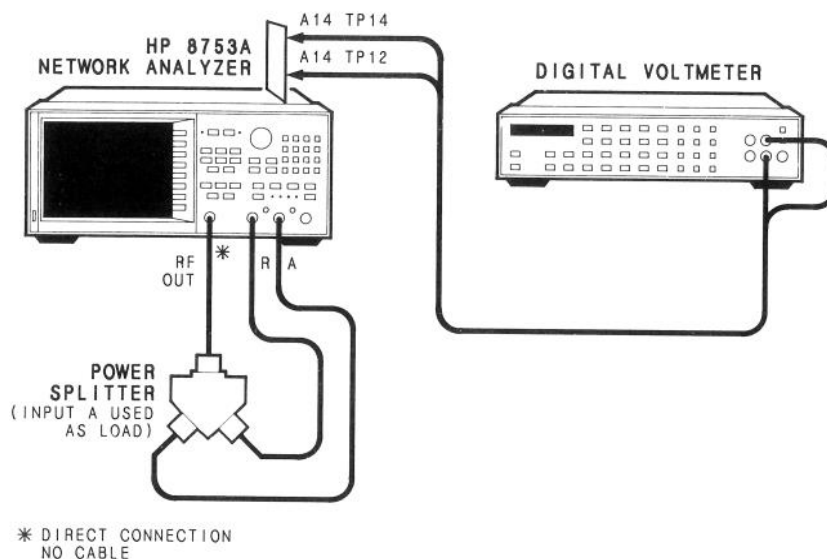

Figure 5. A14 Fractional-N Digital VCO Board Adjustment Setup.
1. Remove the top cover and circuit board stabilizer of the HP 8753A. Install the A14 board (see the Location Diagram) on the extender as shown in Figure 5.
2. Connect the power splitter as shown in Figure 5 and turn on the network analyzer. Allow 30 minutes for warm-up.
9. Remove the top cover and circuit board stabilizer of the HP 8753A. Install the A14 board (see the Location Diagram) on the extender as shown in Figure 5. Use SMB extender cables as required.